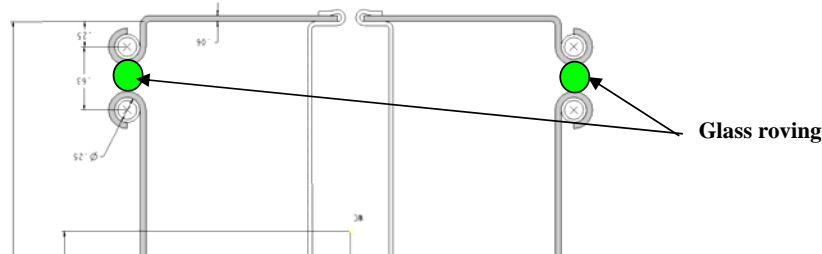

Figure 38- Glass Roving Between Cooling Tubes
- 6.46.5 Install glass roving (rope) in the areas between the cooling tubes. [Figure 38- Glass Roving Between Cooling Tubes]